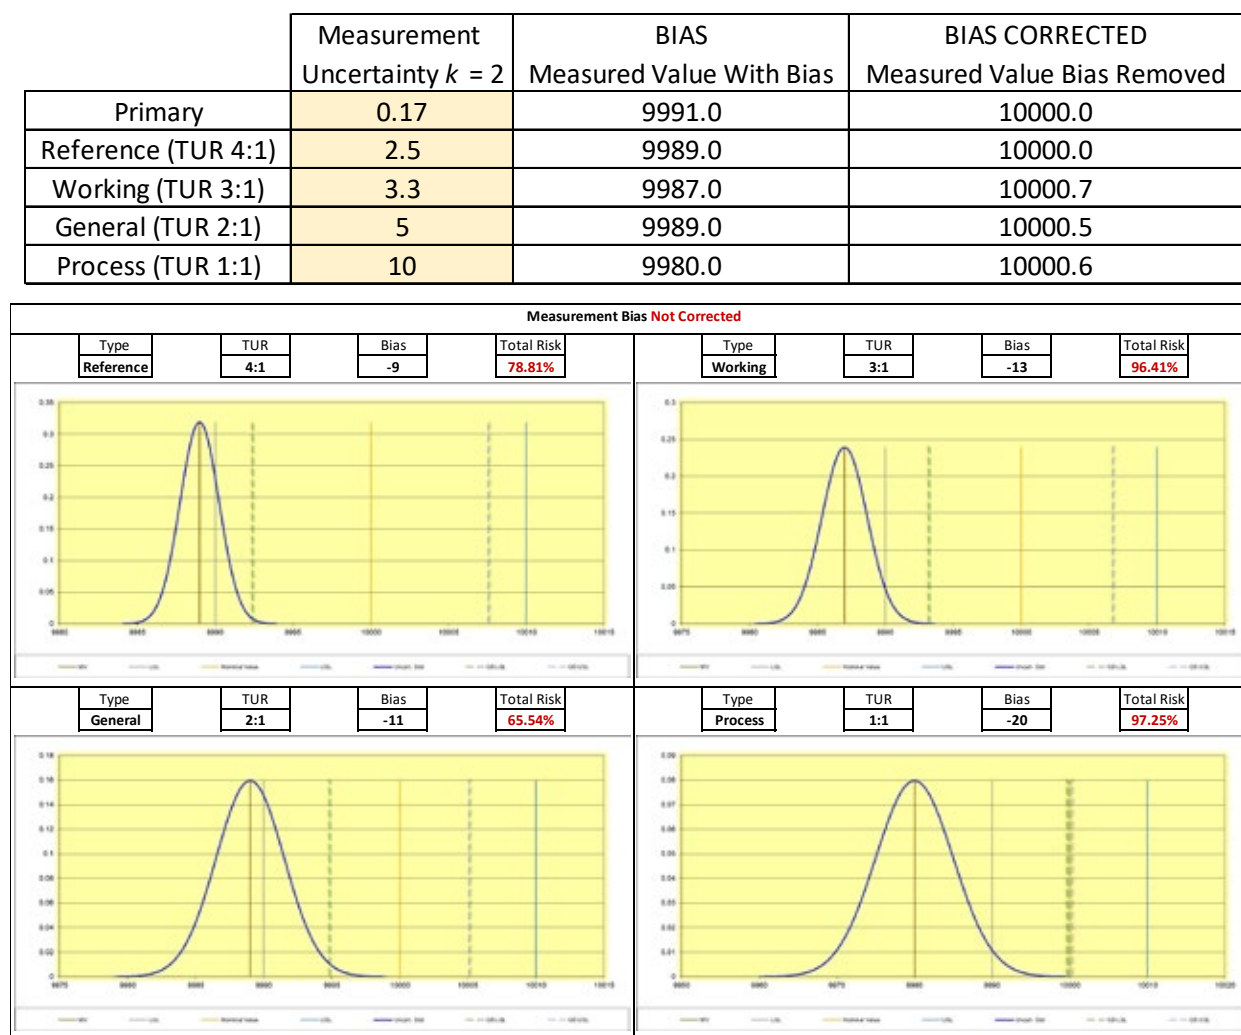
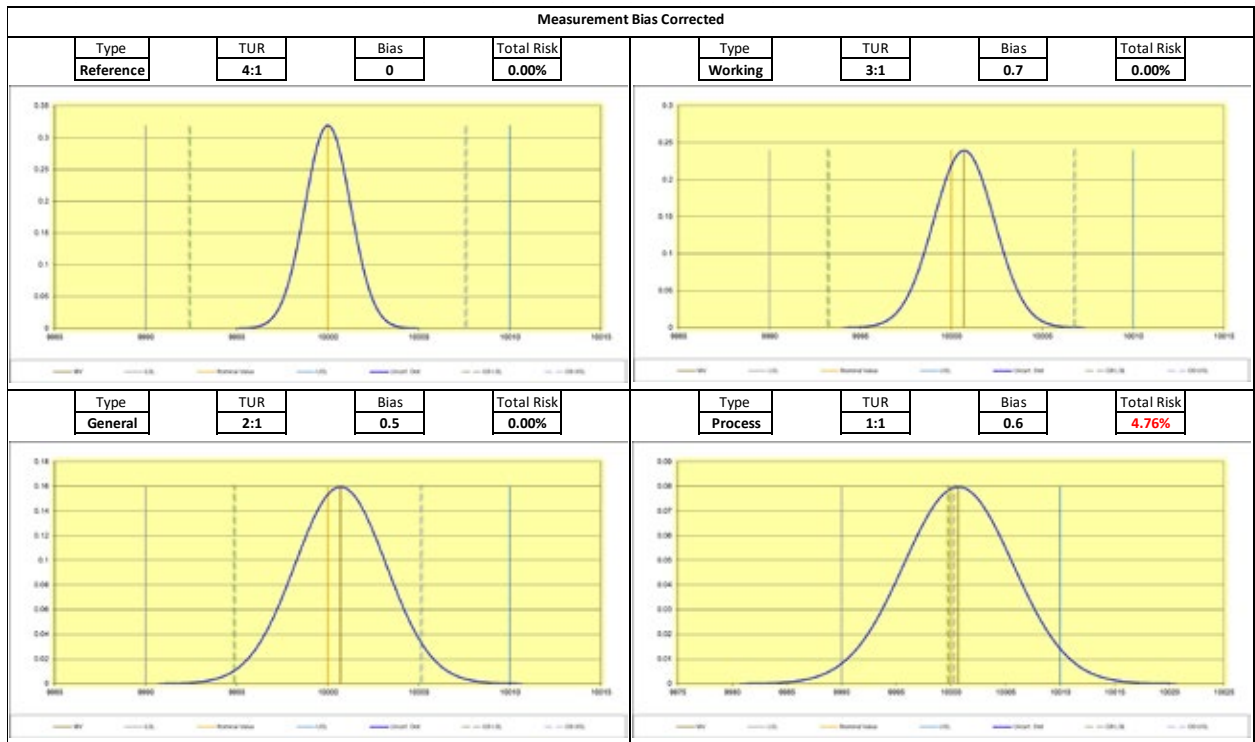

Figure 8. Randomly Generated Differences in **not correcting for bias** total risk graph.
Figure 9. Randomly generated differences in **correcting for bias** total risk graph.
If Primary Standards calibrate the Reference with a 58.79:1 TUR (shown in Figure 1), the total risk is 0.0 %. When the next level uses this Reference, if they correct for bias, the risk with a 4:1 TUR is 0.0 %, as shown in Figure 9. If they do not correct for the bias, as shown in Figure 8, the risk is 78.81 %. Randomly generating numbers and **not correcting** for bias at a 2:1 TUR, the total risk becomes 65.54 %, compared to
0.0 % when bias is corrected in Figure 9.
Figure 9 shows randomly generated numbers assuming each tier from the Reference tier to the General calibration tier is correcting for bias. In each scenario, the measurement risk is drastically different.